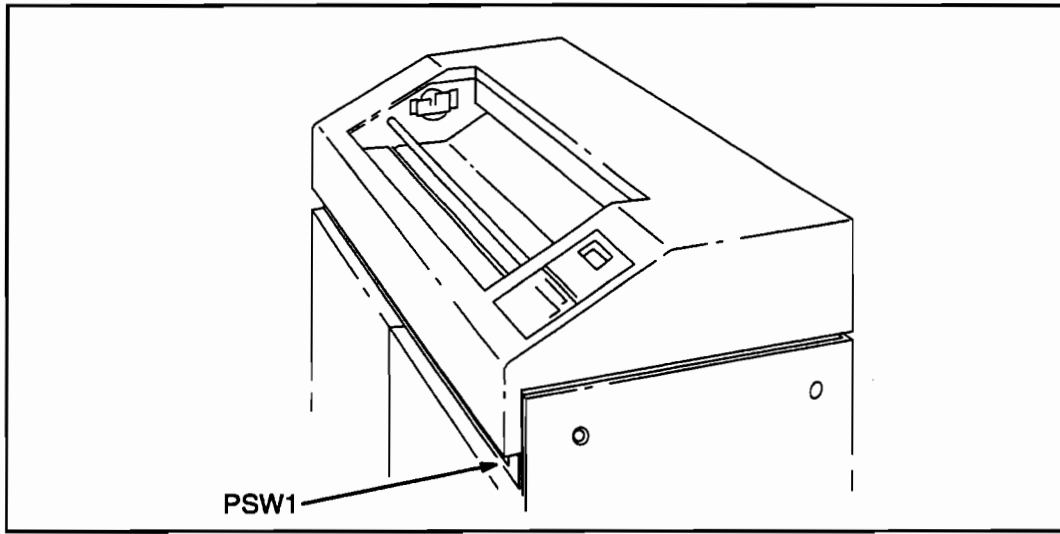

Figure 3-45. Location of Power Switch (Model 250/255)
1. Apply power to the plotter. See Figure 3-45.